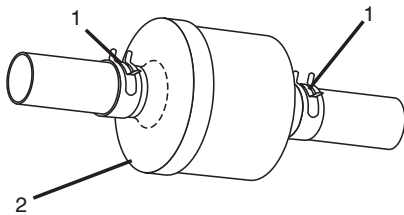

Figure 22
1. With engine cool, remove filter and plug fuel line sections (Figure 22).